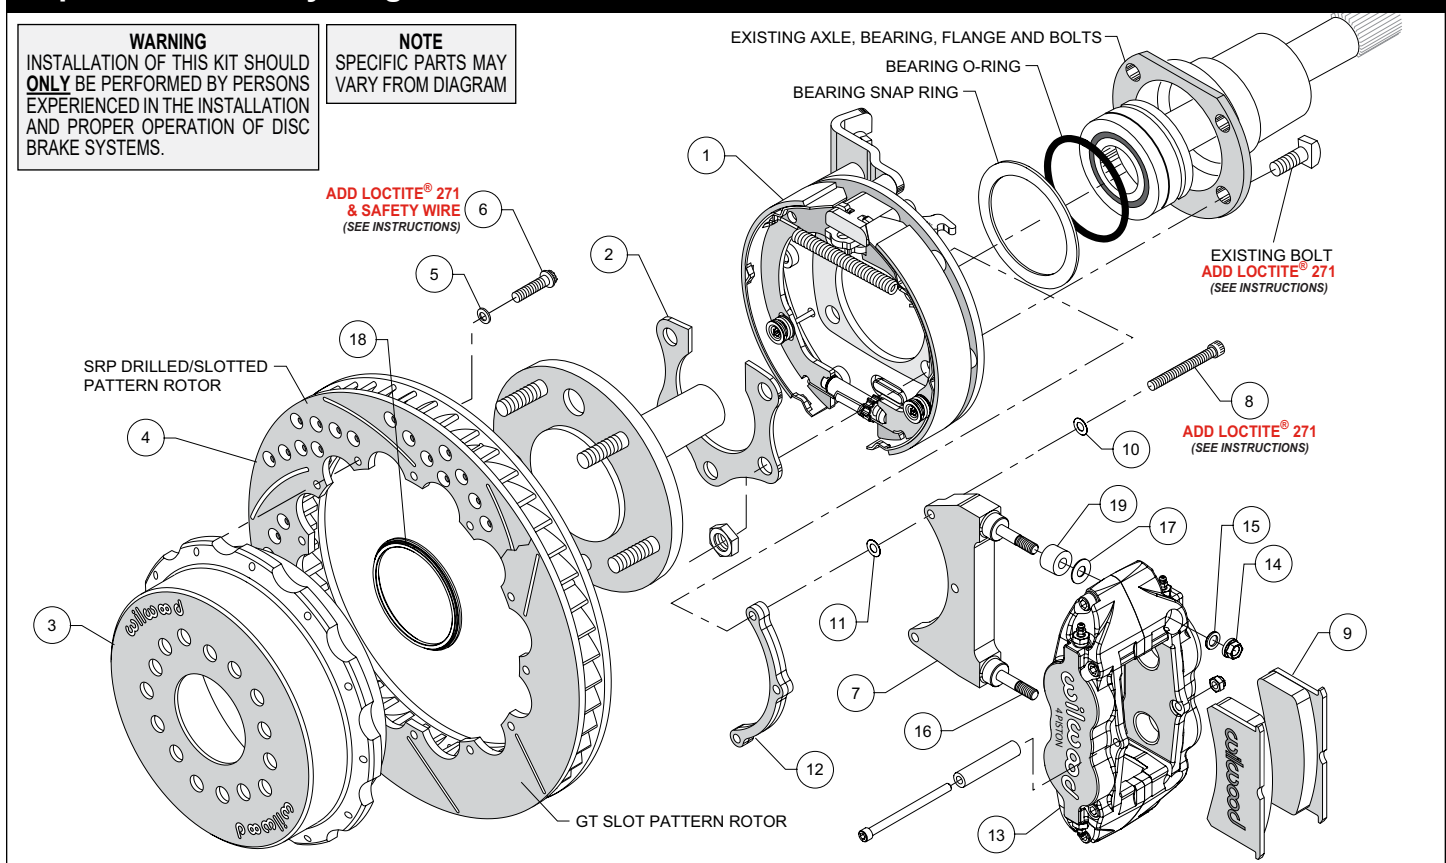

Figure 3. Typical Installation Configuration
- Temporarily remove the snap ring and o-ring from the bearing. Use care so as not to damage those components. Orient the bracket assembly (1) as shown in Figure 3 and Photo 1 and slide it onto the axle and past the bearing. Reinstall the snap ring and o-ring onto the bearing, again using care. Insert the axle and bracket into the axle housing. Ensure that the bracket assembly backing plate fits flush against the axle housing flange. **NOTE:** The bearing snap ring should be sandwiched between the axle housing flange and the new bracket assembly.
- Install the bearing retainer (2) with the opening pointing upward and the bearing relief step facing inward (toward the bearing), as shown in Figures 3 and 6, and Photo 2. Secure retainer and bracket assembly to the axle housing flange using the Original Equipment Manufacturer (OEM) bolts and nuts, Figure 3. Apply red *Loctite*® 271 to the OEM bolt threads and torque to OEM specifications.
- **NOTE:** Please reference the caution statement at the beginning of the assembly instructions. The caliper mounting bracket (7) should initially be installed with clean, dry threads on the mounting bolts. Orient the bracket as shown in Figure 3, and install using bolts (8) and flat washers (10). Initially place one .015" shim washer (11) on each bolt between the bracket (7) and spacer (12), Figure 3. Temporarily tighten the mounting bolts. **NOTE:** End of bolt should not exceed inside face of insert. The bracket must tighten squarely against the back side of the bracket kit assembly (1). Inspect for interference from casting irregularities, machining ridges, burrs, etc. Later, after the caliper alignment has been checked, the mount bolts will be secured using red *Loctite*®.
- Orient the rotor (4) and the hat (3) as shown in Figure 3 and Photo 3. Attach rotor to hat using bolts (6) and washers (5). Apply red *Loctite*® 271 to the bolt threads and torque to 155 in-lb using a criss-cross pattern. For an added measure of security, the bolts may be safety wired using standard 0.032 inch diameter
- Slide the rotor registration adapter (18) onto the axle register on the axle flange with the smaller O.D. facing toward the rotor/hat (4 and 3), Photo 4. Align the correct hole pattern in the hat with the stud pattern on the axle flange and slide into place, Figure 3 and Photo 5. **NOTE:** The rotor/hat must fit flush against the axle flange or excessive rotor run out may result. Install three lug nuts (finger tight) to keep the rotor/hat assembly in place while continuing with the installation. **NOTE:** Some OEM and after market axles come with stud sizes larger than 0.50" diameter. Verify stud size and have a qualified machine shop drill the bolt circle of the hat/rotor to the correct stud size, if necessary.